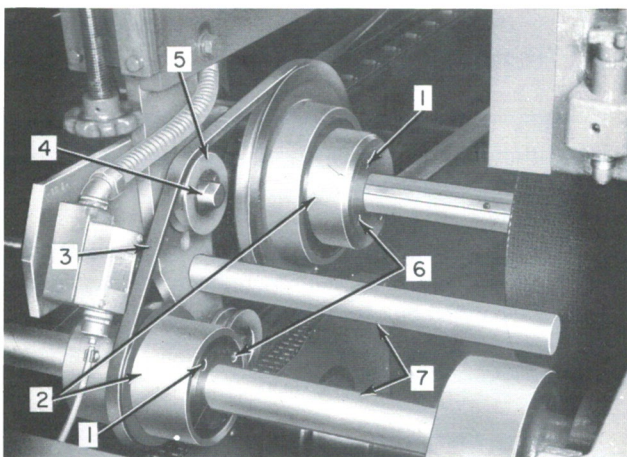

FIGURE 8-9. V-BELT REPLACEMENT
- Step 1) Remove the coupling set screw (1 Figure 8-9) on both the operating and drive sides of the shaft couplings (2 Figure 8-9).
- Step 2) Loosen the V-belt upper idler pulley stud (4 Figure 8-9) nut and move the pulley (5 Figure 8-9) down to release the tension on the belt (3 Figure 8-9).
- Step 3) Install the coupling set screws in the jack screw holes (6 Figure 8-9) and jack the shafts (7 Figure 8-9) free of the couplings.
- Step 5) Thread the belt as shown in Figure 8-9.